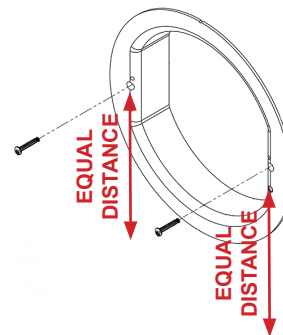

FIGURE 2.34 - Alignment/Attachment
- STEP 4:** Carefully rotate the frames to ensure the attachment holes are parallel to the unit floor. See FIGURE 2.34
- STEP 5:** Use two #8-16X1 PAN HD phillips screws to secure the two frames together. See FIGURE 2.34